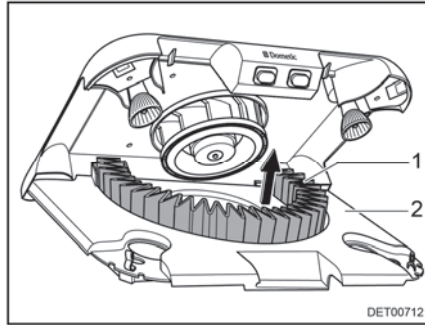

Fig. 165 Change the active carbon filter
- Remove the active carbon filter (Fig. 165,1) of the holder in upward direction.
- Swivel the filter holder (Fig. 165,2) upwards until it engages.